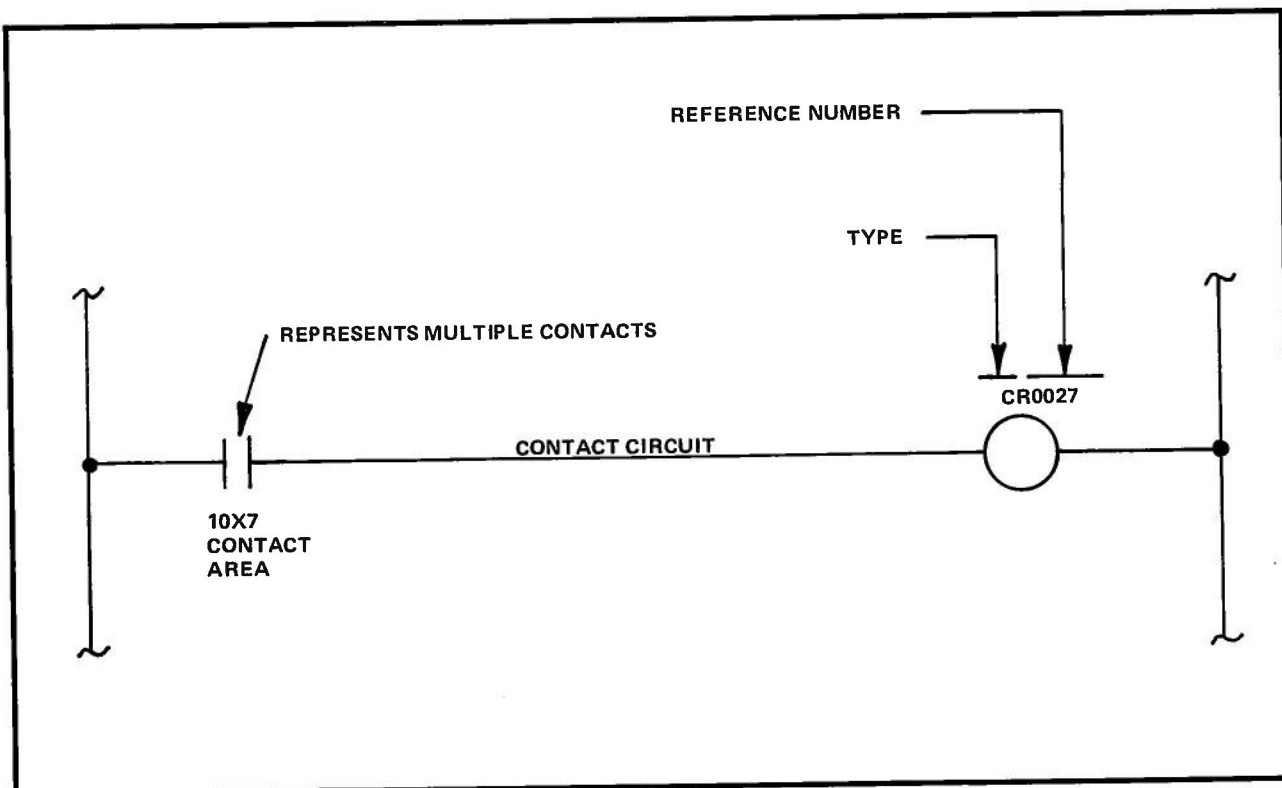

Figure 1. Control Relay (CR)
Control Relay (CR) coils control contacts and output circuits. Each coil controls all contacts with the same reference number as the coil. Output coils can control output circuits and have reference numbers from one to a limit that depends on memory size. Logic coils only control contacts and have reference numbers limited to the values listed in Table 1. CR function symbology is shown in Figure 1.